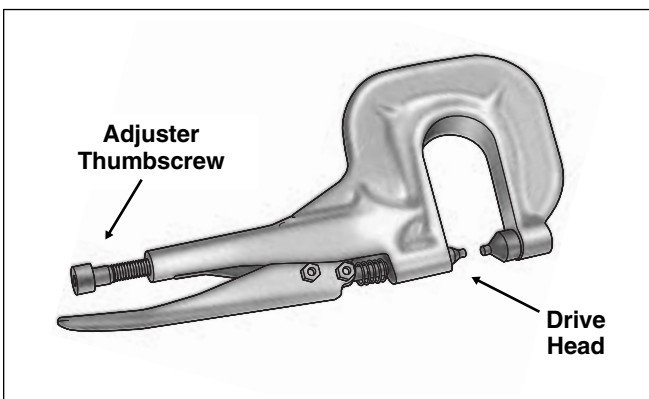

Figure 2-152. Rivet Tool (HD-39787A)
2. Obtain RIVET TOOL (HD-39787A). See Figure 2-152.